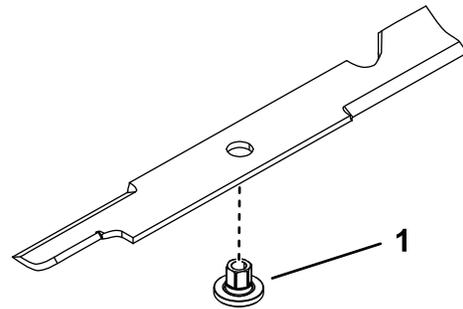

Figure 106
1. Install the bushing through the blade with the bushing flange on the bottom (grass) side of the blade (Figure 106).